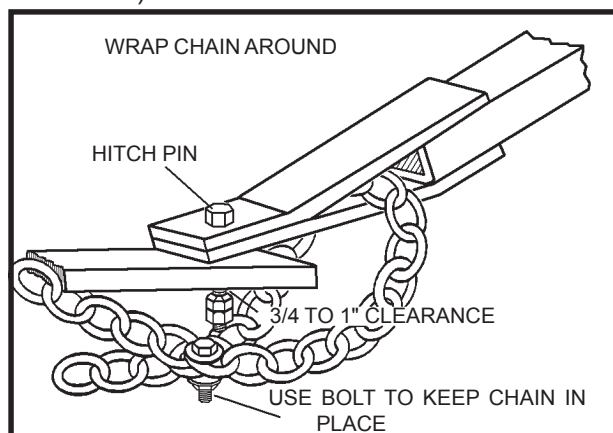

Figure No. 38
2. Make certain that the hitch pin and safety chain are in place and secure. Place safety chain through clevis welded to auger hitch tube and bolt together before attaching to tractor (see **Figure No. 38**).